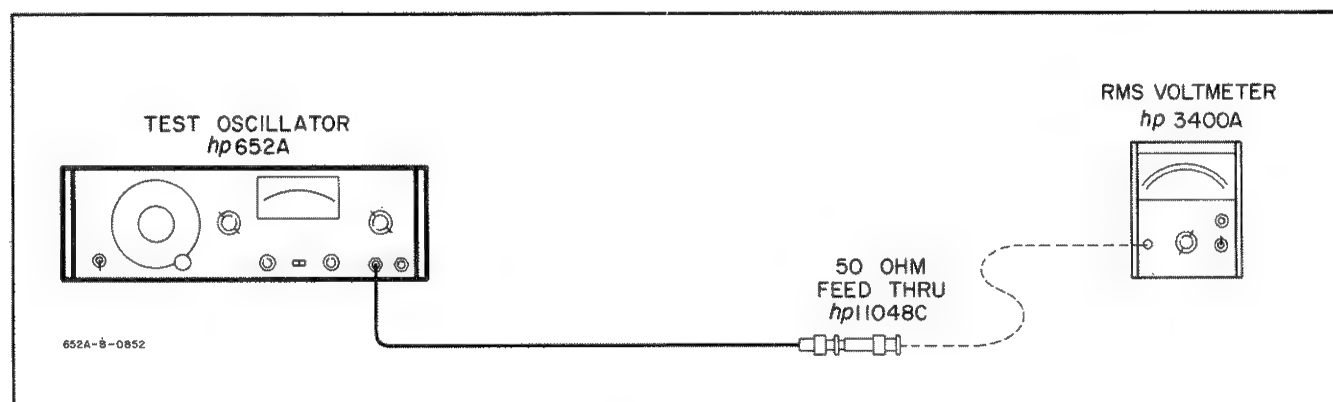

Figure 5-2. Output Tests.
a. Connect ac voltmeter to 50 ohm output terminal of 652A as shown in Figure 5-2.